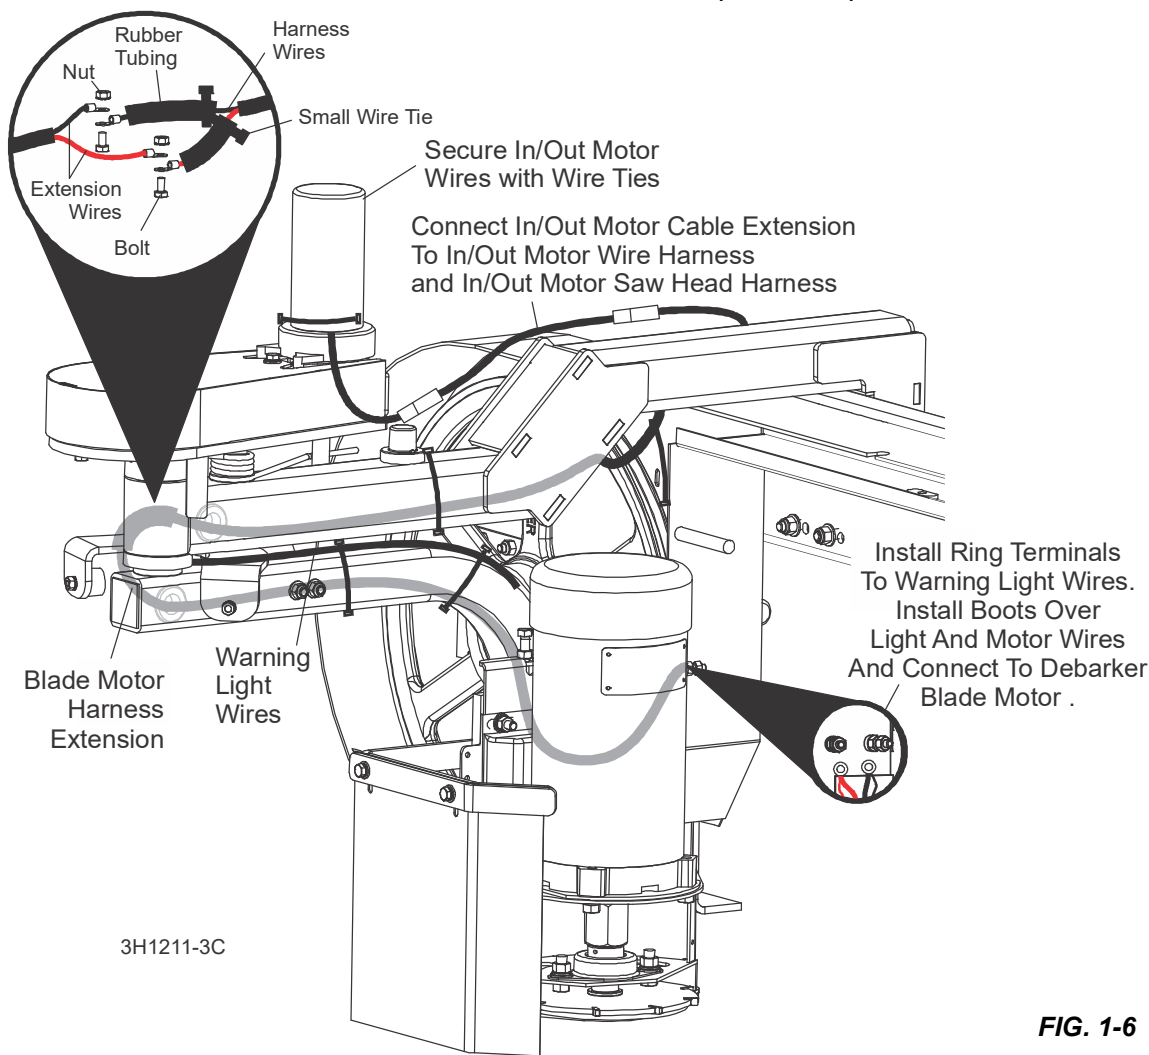

FIG. 1-6
20. Secure the warning light wires to the pivot arm with wire ties as shown in FIG. 1-6.